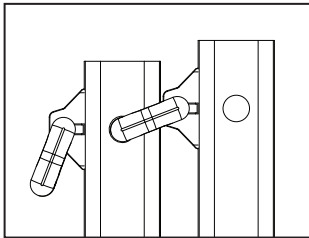

Figure 6
- 4) Lower the outer ladder section with the disengaged “J” locks (See Figure 6) while spreading the two sections apart to form the second trestle required for the scaffold position. See Figure 7.